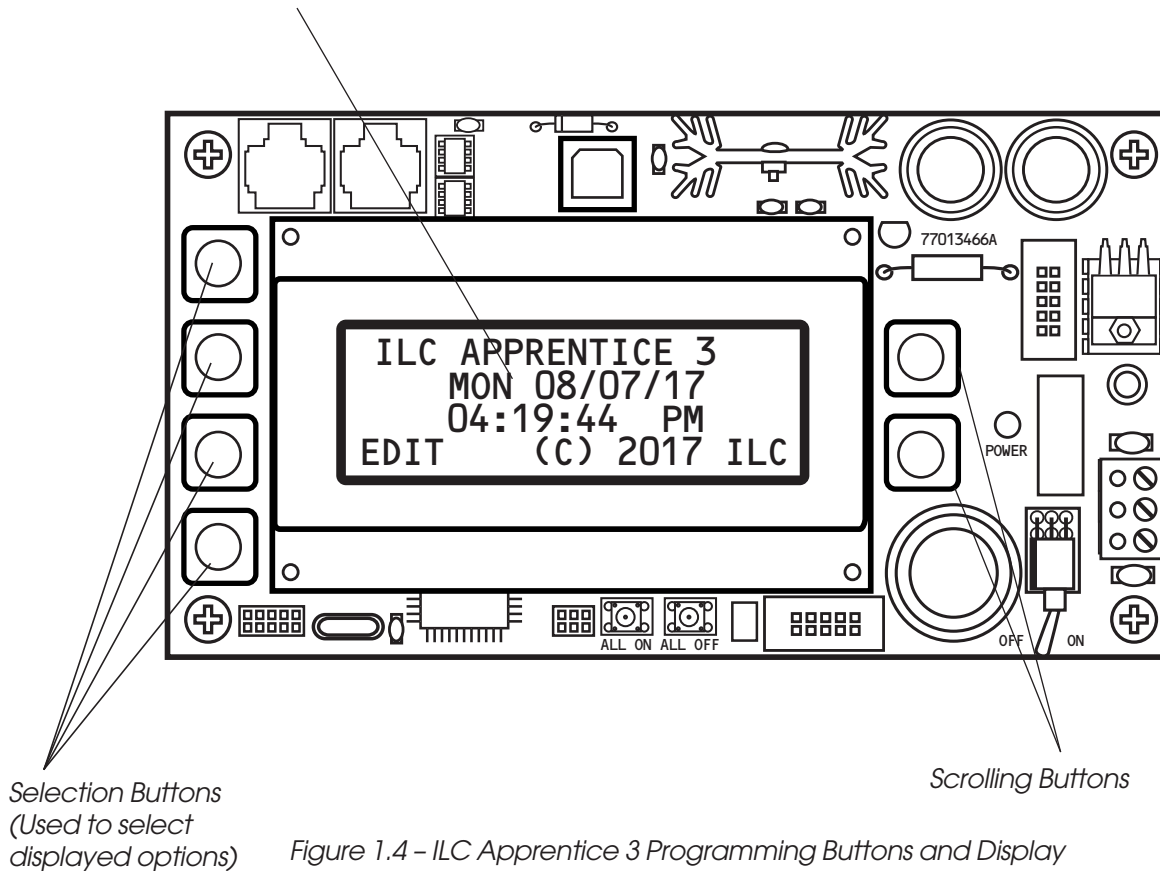

Figure 1.4 – ILC Apprentice 3 Programming Buttons and Display
1.1.6 Programming Buttons/Display - (See Figure 1.4.) The ILC Apprentice provides you with programming buttons and a LCD display to enable programming and view controller data.